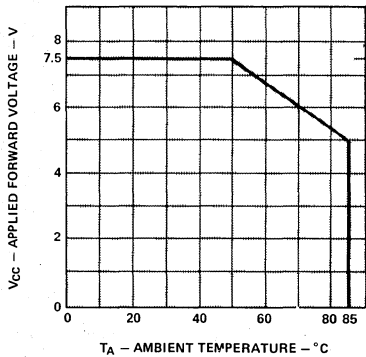

Figure 3. Maximum Allowed Applied Forward Voltage vs. Ambient Temperature  $R_{\theta_{JA}} = 175^{\circ} \text{C/W}$ . 5 Volt Devices
2. Derate from  $T_A = 50^\circ\text{C}$  at 0.071V/°C, see Figure 3.